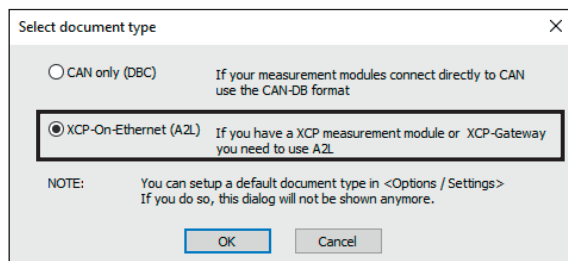

Fig. 5-11: **Select document type** dialog, **XCP-on-Ethernet (A2L)** selected
- ⇒ The **Select document type** dialog (Fig. 5-11) opens.